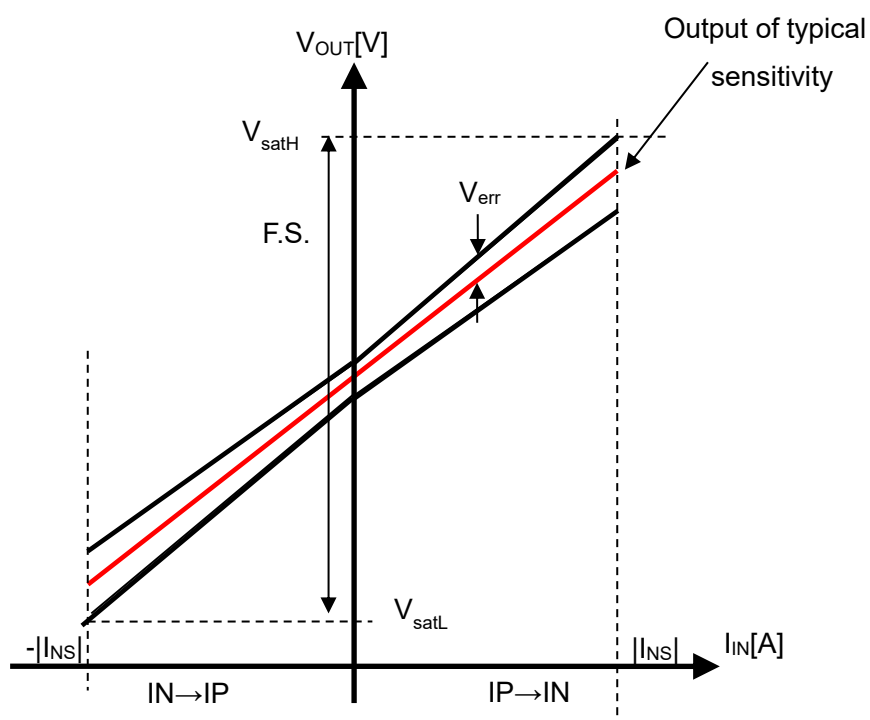

Figure 4. Total Accuracy of CZ-3AG5
10.2. Total Accuracy E_{total} [%F.S.] is defined as below (See Figure 4.)